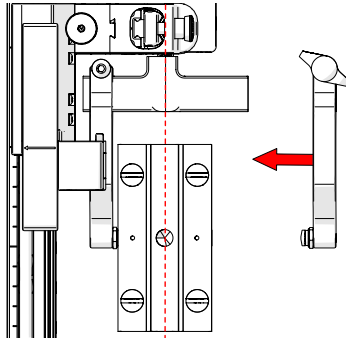

Fig. 51 - Remove outer arm
- Align the middle of the wedge with the centre of the yoke (Fig. 51).